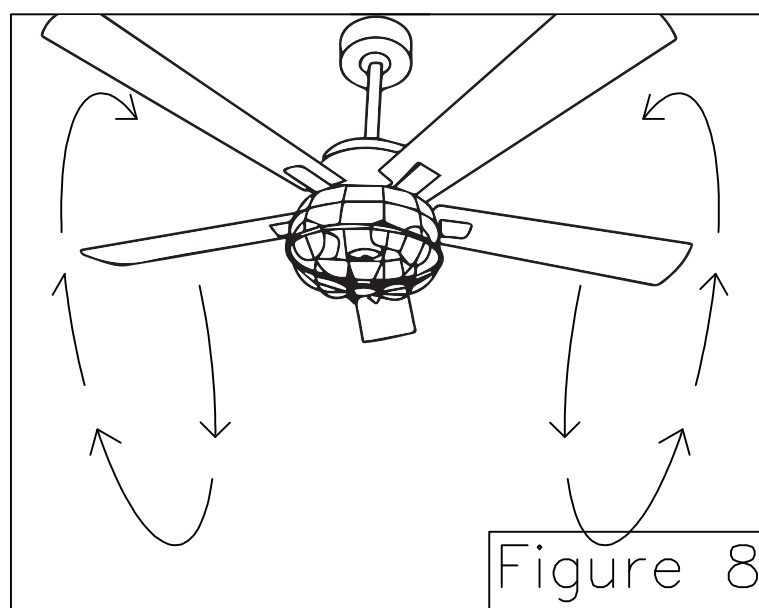

Figure 8
- Cool weather- (Reverse) An upward airflow moves warm air off the ceiling area as shown in. (Figure 8) This allows you to set your heating unit on a lower setting without affecting your comfort.